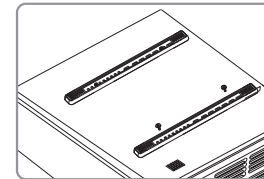
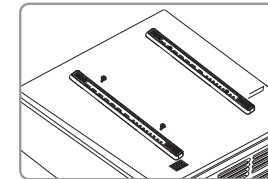

Figure 4
Figure 5
- If need, please loosen the screws on the main arm⑧ and subsidiary arm⑧a to extend the arms.
- Please follow figure 4 or figure 5 to install the multifunctional arm, because of different projectors. In addition, the multifunctional arm can be invisible from the projector.
- Put the main fixation⑦ on projector at the central gravity. Make sure the two U holes on the main fixation⑦ locate at the both side.
- Before connecting GPC main bar③, please fasten the screws of main arm⑧ and subsidiary arm⑧a.